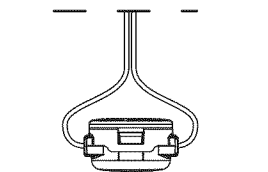

Fig. 18
2. Using 10.5 ft. (3.2 m) of 0.095 in. (2.41 mm) replacement line push an end of the line through one of the eyelets until it protrudes through the opposite side. Continue pushing or pulling the line until the line is evenly distributed, so approximately 5 ft. (1.5 m) is visible from both sides of the cutting head (Fig. 18)